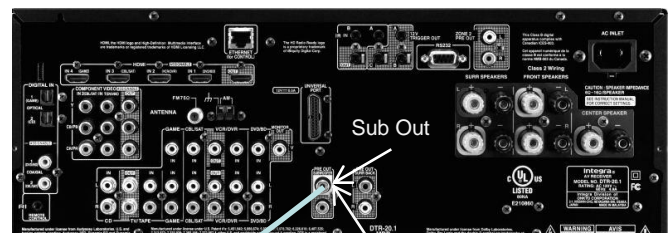

Figure 2, LINE INPUT Hook-Up
The preferred low Line Level (LFE) connection is made by connecting a quality single RCA audio cable with male ends. If your amplifier has two outputs connect only to the left sub out or follow amplifier directions. When using the amp LFE output turn the FLSUB Crossover Frequency knob fully (CW) clockwise. See *Figure 1, LINE INPUT* (LFE) and *Figure 2, Hook-Up*.